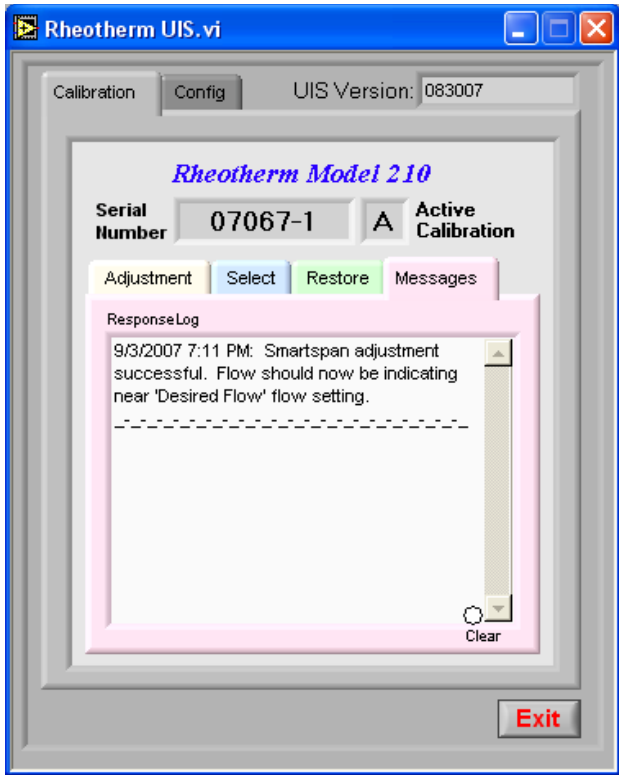

Figure 7 - Calibration Messages Form
- v. Within a few seconds the instrument should indicate the new value and a confirmation message should automatically appear in the UIS message form (Figure 7).
- i. At any time the Message tab can be selected to view the current UIS session activity and instrument command responses (Figure 7).